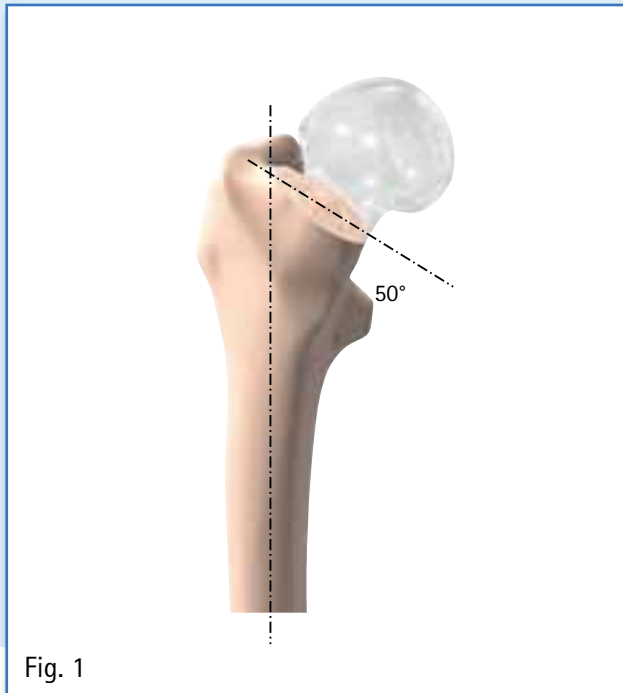

Fig. 1
### 1. Femoral Osteotomy: (Fig. 1)
- The femoral osteotomy is positioned approximately 5 mm above the junction of the greater trochanter and the femoral neck, and is ideally inclined at an angle of 50° to the femoral shaft axis (Fig. 1). To aid intraoperative orientation, the distance from the lesser trochanter can be measured medially.